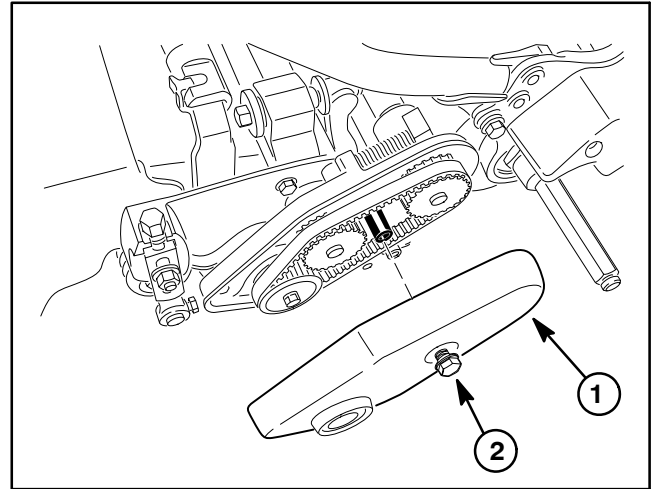

Figure 14
2. Remove reel drive cover to expose reel drive belt (Fig. 14).
7. Install reel drive cover to machine and secure with flange head screw (Fig. 14).